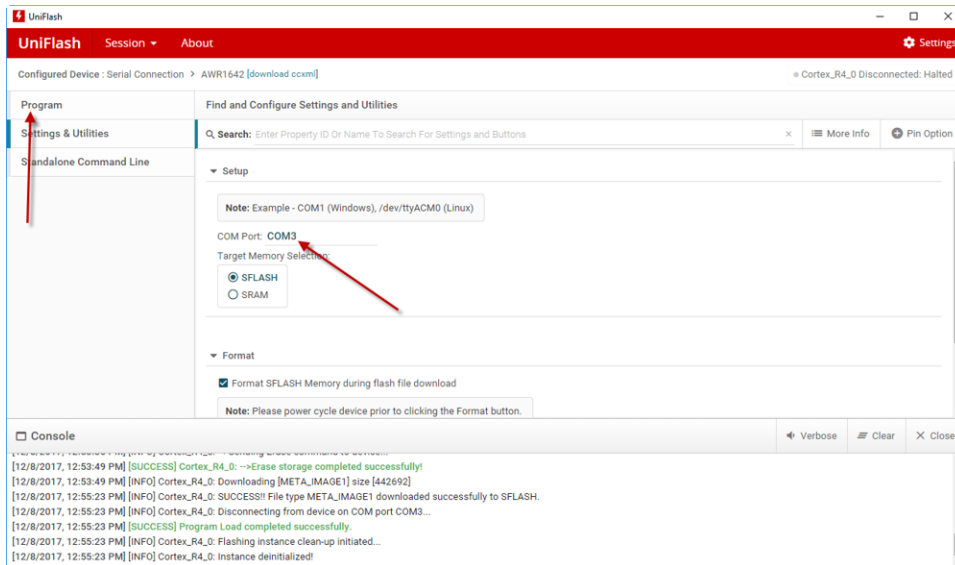

Figure 15. Enter COM Port
- Return to the UniFlash software and enter the COM port from the device manager. Then click the *Program* menu on the left side of the window to go back to the previous menu (see Figure 15).